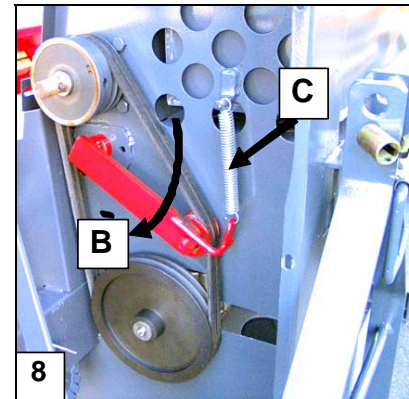

Fig. 8. Tightening the V-belts
- ❑ When lever A is pulled, tightening wheel B swings down and the V-belts slacken (Figure 8). Disengagement lever A locks up and the belts remain slack.
3.4 Automatic tightening of the V-belts (Figure 8)